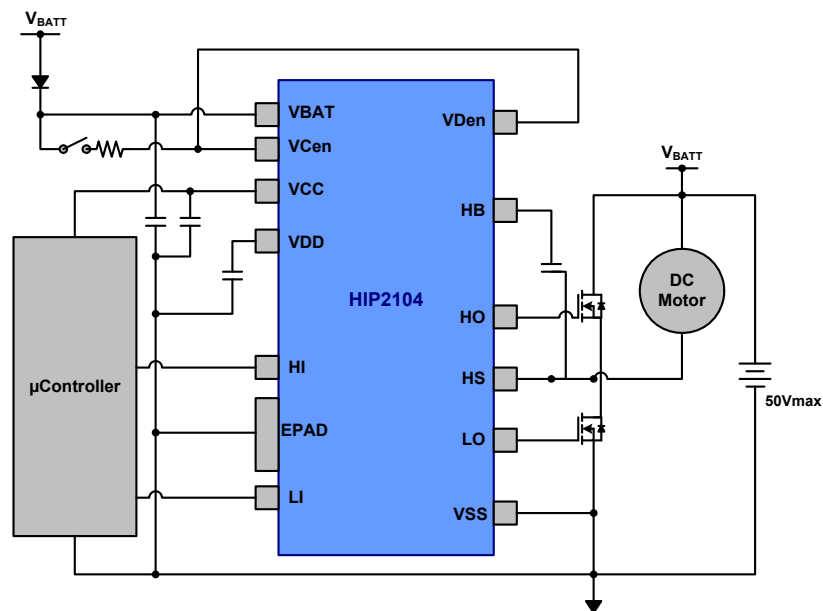

Figure 3. Half-Bridge Motor Drive Topology
- Half-bridge, full bridge, and BLDC motor drives (see Figures 3, 4, 5)